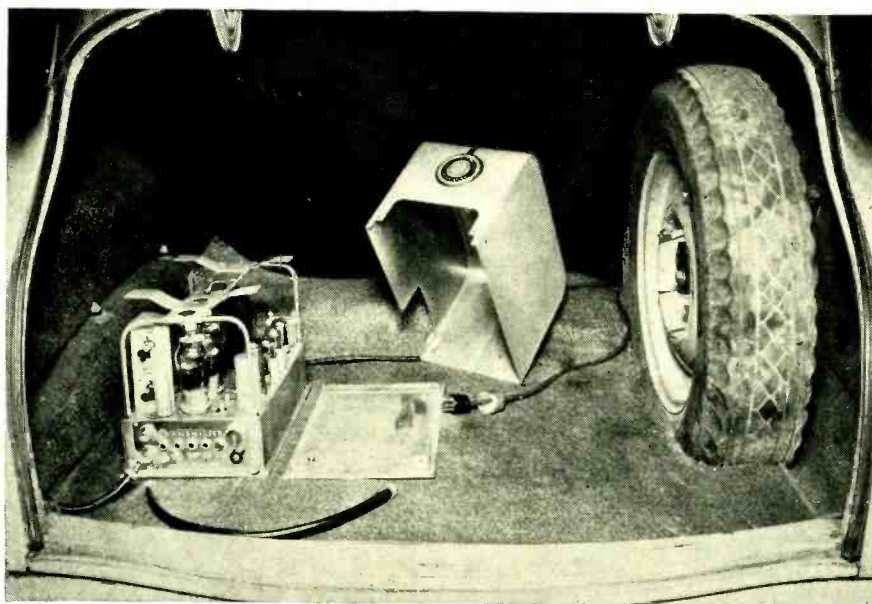

Fig. 3. Maximum life of equipment is obtained by bolting transmitter and receiver sub-bases to trunk compartment.
This study was continued in both road vehicles and in elaborate laboratory shock and vibration testing equipment. We came to this definite conclusion that when this type of equipment is mounted in vehicles as used by police departments, the maximum life will be obtained by bolting the transmitter and receiver sub-bases solidly to the trunk compartment of the vehicle. Such a typical installation is indicated in Fig. 3.
The basic features that would be classified under this section and which were included in the earlier design have proven to be wisely chosen and therefore they have been continued into the current design. Such features include transmitters and receivers built on separate chassis, so that either one could be removed for servicing without disturbing the other. This results in a minimum of time for servicing a particular unit or a minimum amount of spare equipment on the shelf. It includes also the removable base plate construction as illustrated in Fig. 3. The base plate is bolted solidly to the trunk compartment and the chassis is held to this base plate by an angular
**Fig. 3. Course plotted by radio bearings on theoretical patrol flight New York to Nassau. Chart normally used would include latitude and longitude lines; magnetic variation lines; and mercator corrections if chart was mercator type.**
(1) Track bearings off tail. (2) Three station fixes. Unusually good because of excellent relationship of plane's position to stations. (3) "Abeam" and speed check bearings. Used here without track bearings because no source is available. (4) Three station fixes showing normal error which is gradually reduced as plane gets closer to stations. (5) Combination of "Fix", track and abeam bearings showing number of ways position can be checked. (6) Track bearings off nose with ship finally homing in.